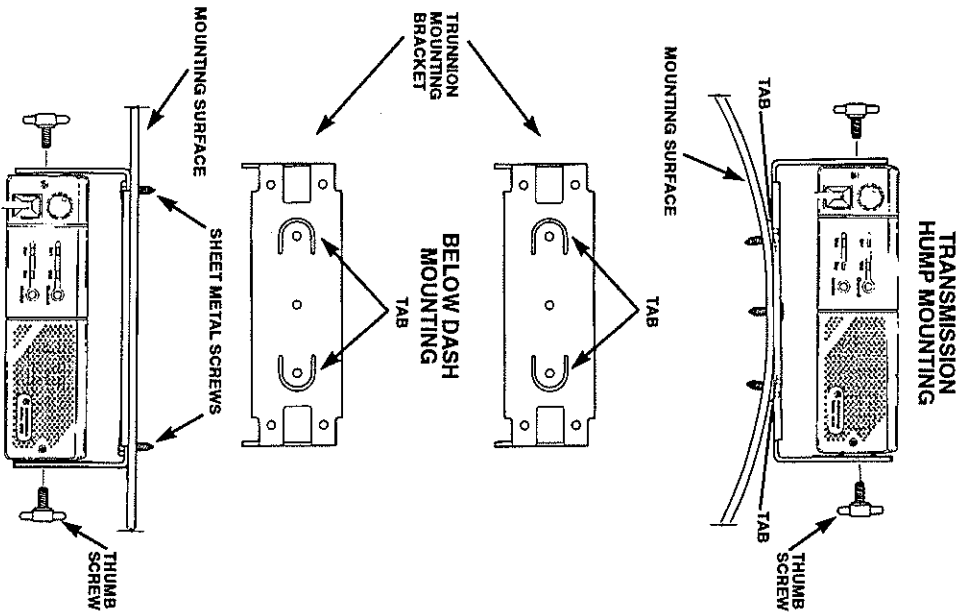

Figure 4. Trunnion Mount for Radio
(See Figure 4)
1. Select the location to mount your radio either on the **Transmission Hump or Under the Dash** (see Figure 4).